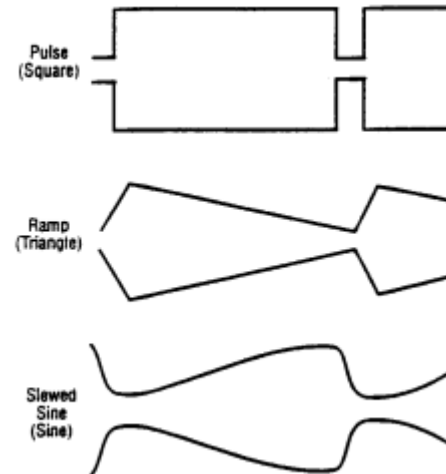

Figure 4. Effects of Symmetry Variation.
The **DUTY CYCLE** control can be used to alter the symmetry of the output waveform, to produce waveshapes such as those shown in Fig. 4. For a square wave, symmetry variation amounts to changing the duty cycle (ratio of "high" to "low" time), effectively converting the instrument into a pulse generator. For a triangle wave, the result is a ramp, and with a sine wave, a distorted waveshape called a slewed sine is produced. The Model 4012A provides for symmetry variation from 15% to 85%.
- Engage the **DUTY CYCLE** switch (17) and adjust the **DUTY CYCLE** control (10) for the desired waveshape. Clockwise rotation from center results in an increase in square wave duty cycle, and changes the sine and triangle waves as shown in the top waveform of each pair of Fig. 4. Counter-clockwise rotation results in the bottom waveform in each pair.